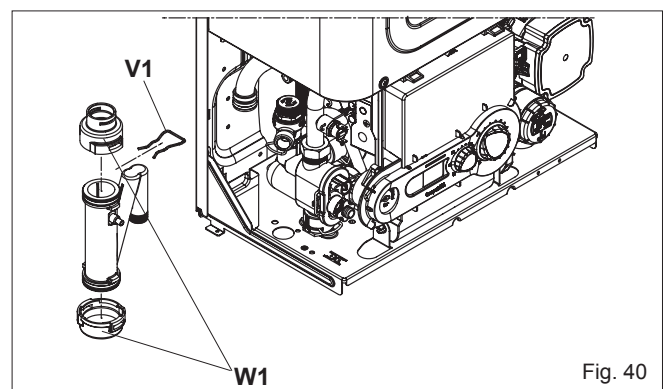

Fig. 40
6.20 CONDENSE TRAP REMOVAL (fig. 40)